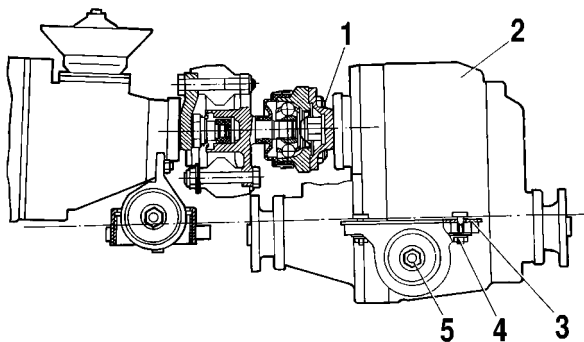

Fig. 3-38. Transfer box installation:
- place the transfer box on the vehicle, but do not tighten completely mounting bracket nuts 4 and 5 (fig. 3-38);